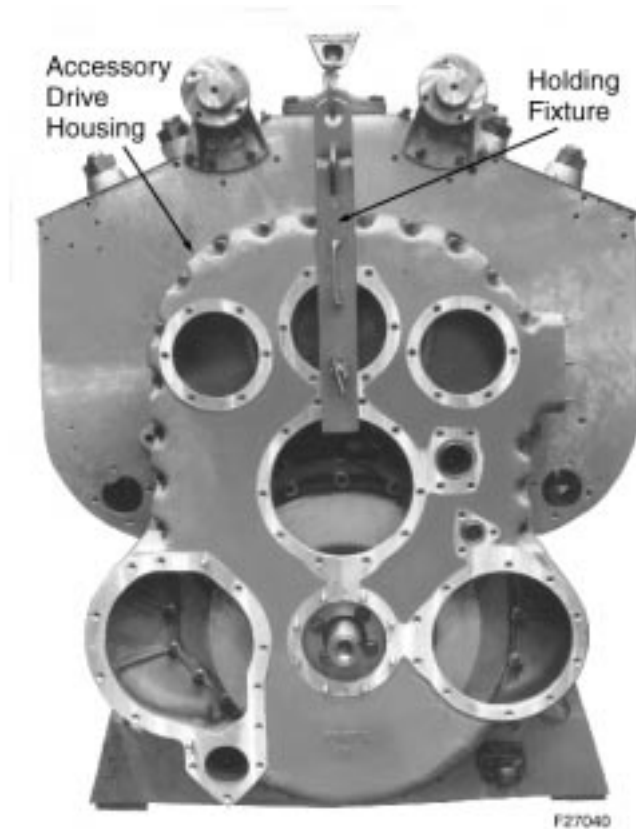

Figure 6-12. Accessory Drive Housing Positioning
3. Using holding fixture and a suitable lifting device, position housing to crankcase and secure with one mounting bolt on each side of housing, Figure 6-12.